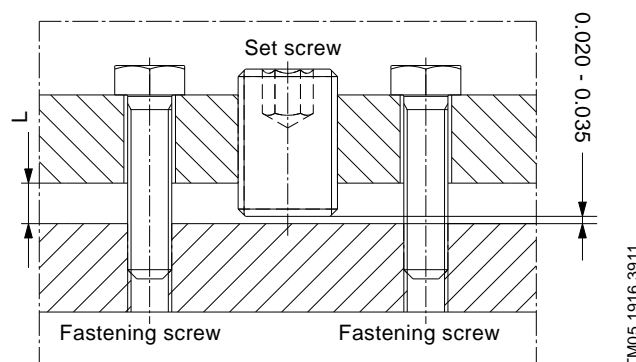

Fig. 19 Impeller clearance adjustment
3. Slacken the set screws and draw back the suction cover by between 0.020 and 0.035 inches (0.5 and 0.9 mm). using the six fastening screws (approx. one 270 ° turn of an M12 fastening screw) and the distance "L" as reference. See fig. 19.